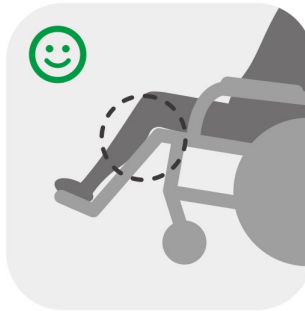

Figure 4.34
- Make sure that the footplate height is adjusted properly according to the user's calf length to reduce pressure on the body. (See Figure 4.34 and 4.35)